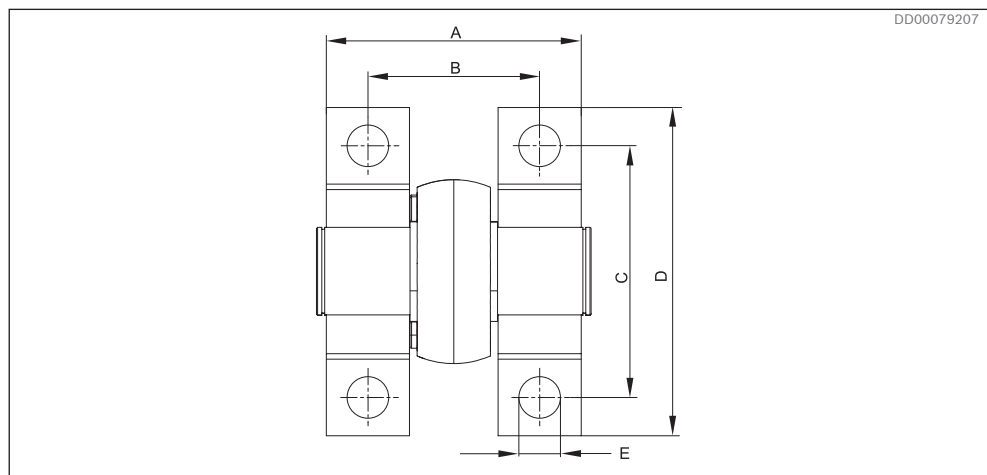

Fig. 32: Hole pattern articulated connection and hydraulic cylinder for DTCBM 1600 to DTCBM 4000
- 2 Hole pattern and dimensions for ground attachment see *Fig. 32 and Table 11*